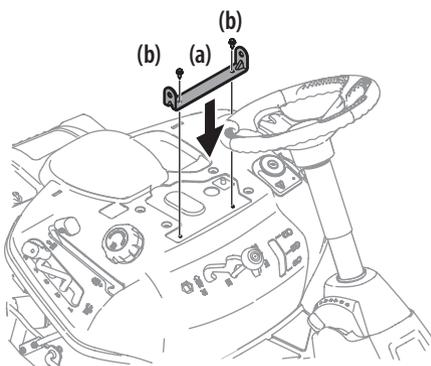

Figure 8
3. Align the seat bracket (a) in place over the holes from where the self-tapping bolts (b) were removed, as shown in Figure 8.
4. Using a 1/4" drive ratchet with a 3/8" socket, secure the seat bracket (a) with the self-tapping bolts (b) removed in Step 2. See Figure 8.